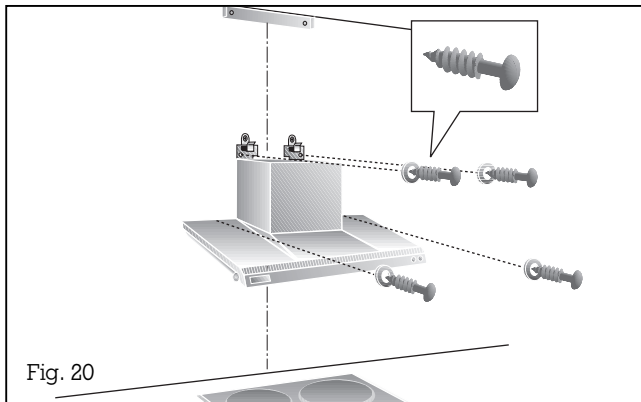

Fig. 20
- Secure the hood to the wall using the 4 screws **b** with shims **c** (Fig. 20).